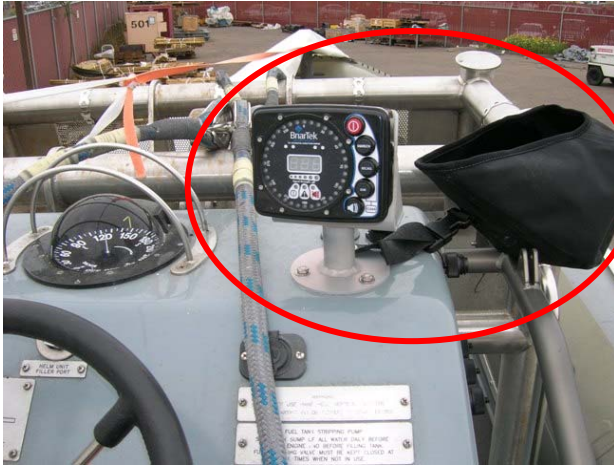

**Figure 7. Waterproof DB9 Gaskets**
- (4) Connect data cable. A waterproof DB9 connector with extended-length gasket (see figure 7) must be used to maintain the water tight integrity of the antenna array.
- (5) Secure antenna array. Install a lock washer and flat washer onto a  $\frac{1}{4}$ -20 x  $\frac{3}{4}$ " fastener. All material should be 316 CRES. Apply anti-seize to threads of  $\frac{1}{4}$ -20 fastener. Install fastener through the  $\frac{1}{4}$ " hole at the antenna array mounting base and into the tapped mast. Do not over-torque or threads will strip.